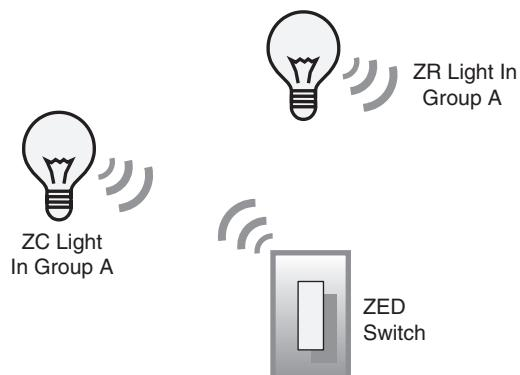

Figure 4.5: ZigBee Data Request Example
The example in this section, *Example 1-1 ZigBee Data Requests*, shows how unicasts, groupcasts, and broadcasts are used within an application. The network is composed of three nodes. The ZigBee Coordinator (ZC) and a ZigBee Router (ZR) are lights. A ZigBee End-Device (ZED) is a switch. The lights are controlled via various ZigBee data request methods, to illustrate the use of each see Figure 4.5.